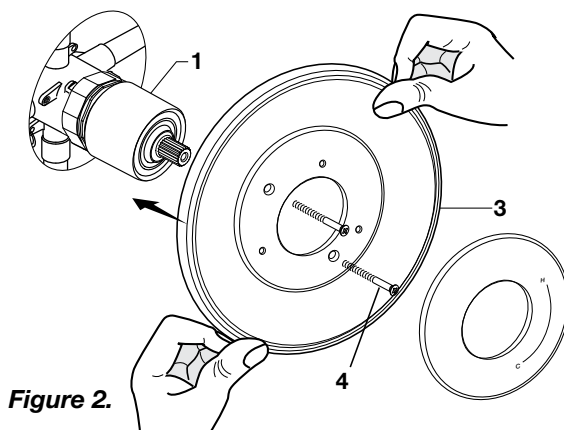

Figure 2.
- ☒ **Figure 2.** Push ESCUTCHEON (3) onto CAP (1) and attach to valve body with LONG SCREWS (4).